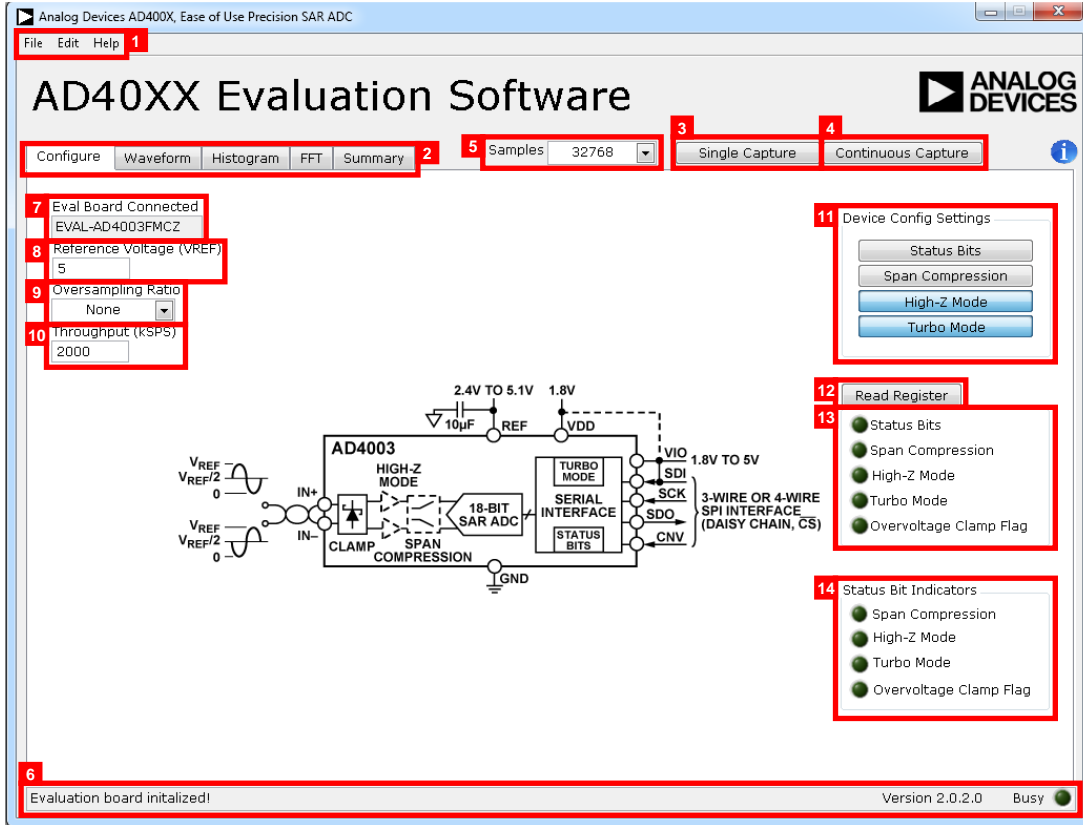

Figure 17. AD40XX Evaluation Software Front Panel (Configure Tab View)
After the AD40XX Evaluation Software Installer initializes, the software front panel appears, and the software automatically connects to any EVAL-AD400x-FMCZ evaluation board connected to the PC. The detected evaluation board is displayed in the **Eval Board Connected** indicator on the front panel (see Label 7 in Figure 17).
The AD40XX Evaluation Software Installer front panel is shown in Figure 17. The following sections describe the various software controls accessible on the front panel.
The **File** menu (Label 1 in Figure 17) provides the following options:
The **Edit** (Label 1 in Figure 17) menu provides the following option:
The **Help** menu (Label 1 in Figure 17) provides the following options:
The following five tabs are located at the top of the front panel (Label 2 in Figure 17): **Configure**, **Waveform**, **Histogram**, **FFT**, and **Summary**. These tabs select various front panel views.
Click **Single Capture** (Label 3 in Figure 17) to perform a single set of conversions. The number of conversions performed is set with the **Samples** dropdown list, which is located to the left of the **Single Capture** control.
Click **Continuous Capture** (Label 4 in Figure 17) to perform repeated sets of conversions. The number of conversions performed per set is set with the **Samples** dropdown list.
The **Samples** dropdown list (Label 5 in Figure 17) sets the number of conversions that are performed when **Single Capture** is clicked. The button also sets the number of conversions per set when **Continuous Capture** is clicked.
The status bar (Label 6 in Figure 17) displays information about the current process being completed by the **AD40XX Evaluation Software Installer**. The **Status Bar** includes a **Busy** indicator, which displays if the software is busy performing a task such as performing conversions, analyzing results, and so on.
Figure 17 shows the **Configure** tab view. The **Configure** tab provides controls for configuring the connected **AD4000** family device and software settings. The **Configure** tab view contains the following controls and indicators:
- **Eval Board Connected** (Label 7 in Figure 17): indicates that the **EVAL-AD400x-FMCZ** board is connected to the software.
- **Reference Voltage (VREF)** (Label 8 in Figure 17): sets the VREF used in data analysis such as when calculating **LSB Size** (see Label 2 in Figure 19), or measured voltage in the waveform graph (see the **Waveform Tab View** section. This control must be set to match the VREF used on the connected **AD4000** family evaluation board.
- **Oversampling Ratio** (Label 9 in Figure 17): sets the oversampling ratio applied to the captured data. After this control is set to any value other than **None**, the software sums up the consecutive conversion results together to increase effective resolution. The number of conversions summed together is set by the **Oversampling Ratio** control.
- **Throughput (kSPS)** (Label 10 in Figure 17): sets the throughput of the connected **AD4000** family device. The maximum value of this control is automatically set to reflect the maximum achievable throughput of the connected device, given the state of the **Status Bits** and **Turbo Mode** controls. See the relevant **AD4000** family device data sheet for more information on maximum achievable throughput.
- **Device Config Settings** (Label 11 in Figure 17): configures the connected **AD4000** family device user configuration register settings. See the relevant **AD4000** family device data sheet for a detailed description of the user configuration register and the device features.
- **Read Register** (Label 12 in Figure 17): reads the **AD4000** family device user register. When **Read Register** is clicked, the contents of the connected **AD4000** family device register are read to update the **Device Config Settings** items accordingly.
- **Device configuration settings display** (Label 13 in Figure 17): displays the status of the user register when **Read Register** is clicked. Each of the following indicators displays the state of the corresponding settings:
- **Status Bits Indicators** (Label 14 in Figure 17): displays the configuration settings of the device as indicated by the status bits. The status bits are enabled with the **Status Bits** control in the **Device Config Settings** pane (Label 11 in Figure 17). The **Status Bits Indicators** are only updated after conversions are performed with the **Single Capture** or **Continuous Capture** controls when the status bits are enabled on the connected **AD4000** family device. The
- **Bin Width**: displays the size of the frequency bins in the FFT graph x-axis. The bin width is a function of both the **Throughput (kSPS)** control (Label 10 in Figure 17) and the number of samples in the captured data.